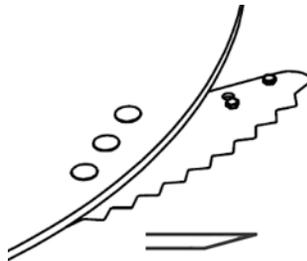

Figure 56 — Knives Turned Over, With the Tungsten Coating on Top
2. When the teeth on all the knives are worn down, turn all the knives over so that the tungsten coating is on top (Figure 56).